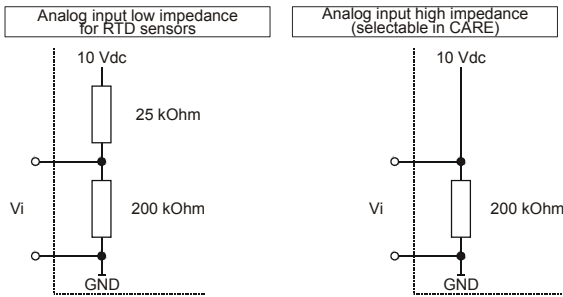

Fig. 3. Analog input impedance
**NOTE:** When the input is identified as a DI point, the internal pull-up resistor is disabled (see Fig. 3).